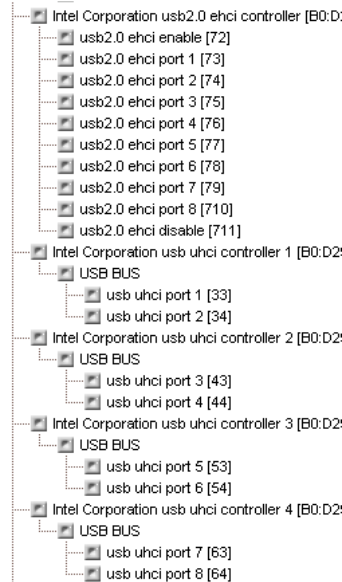

Fig. 6 – Possibly surplus USB tests in the Test Script window.
1. Removal of tests for devices that are not present on the board: the ATG assumes that the board is fully populated. For example, if one of the available RAM sockets will be empty when the board is tested, this test will need to be removed, otherwise the test will indicate that the RAM has failed. If the USB controller is capable of supporting 6 ports, but only 4 connectors have been implemented on the board, the 2 surplus tests need to be removed (fig. 6). Some of the IDE Primary and Secondary Master / Slave Tests are removed as follows:
- b. Select the test(s) to be removed in the Test Script window (fig. 6).